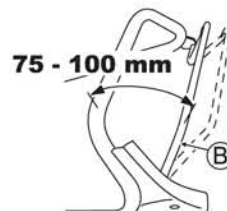

Fig. 27
Adjust so that the machine runs (the drive clutch gets engaged) when the distance between Drive clutch lever (B) and the handle is 75 - 100 mm as shown in Fig. 27.